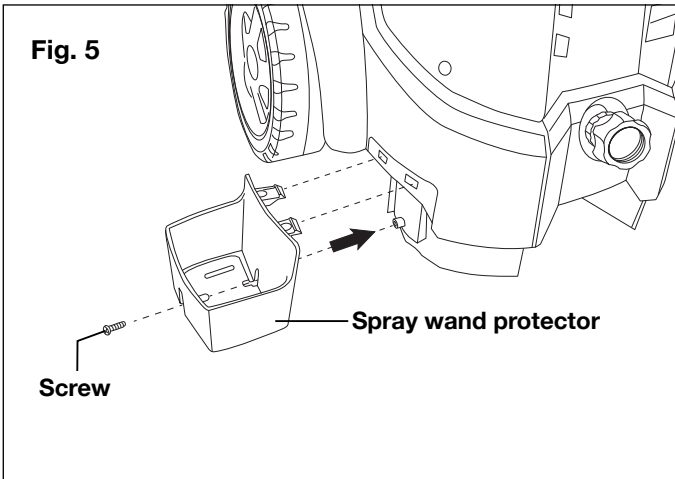

Fig. 5
5. To assemble the spray wand protector, first snap the tabs into the slots located at the bottom left side of the unit, and then secure it in place with the other screw (Fig. 5).